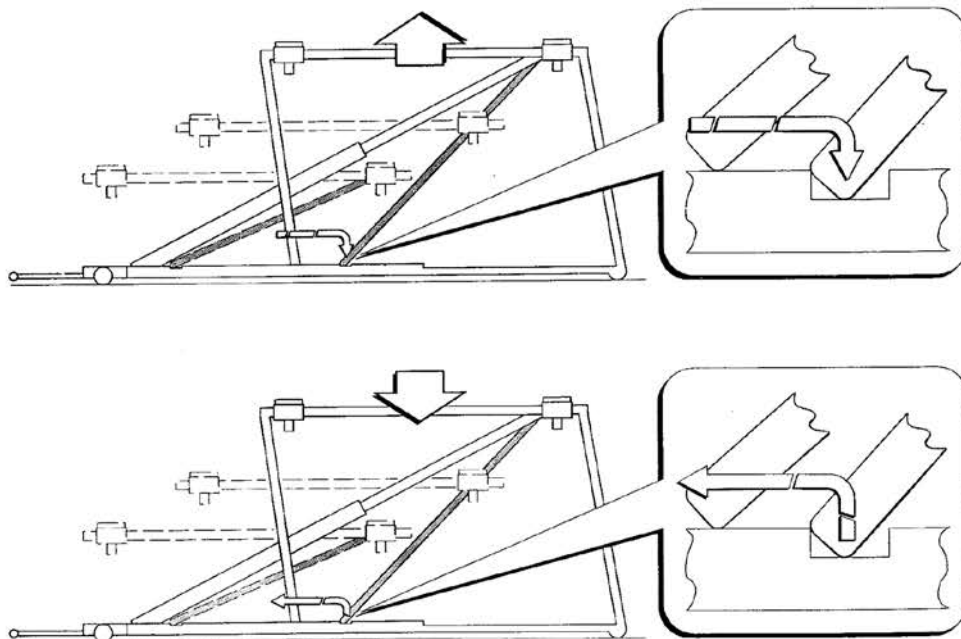

FIG 10
- Stop the rise as soon as the support rods enter the housings at the required height (**Fig. 10**);